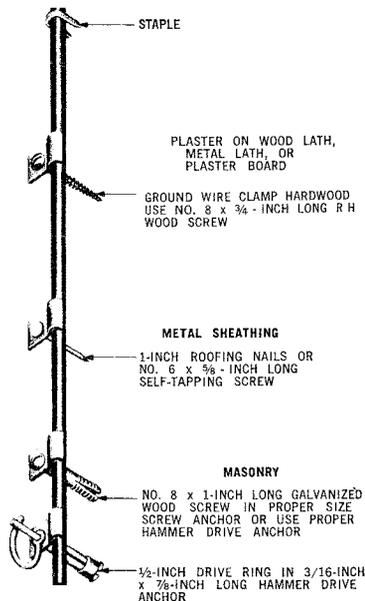

Fig. 12 – Fasteners For Ground Wire
5.01 Fasteners for ground wire and their use are shown in Fig. 12.